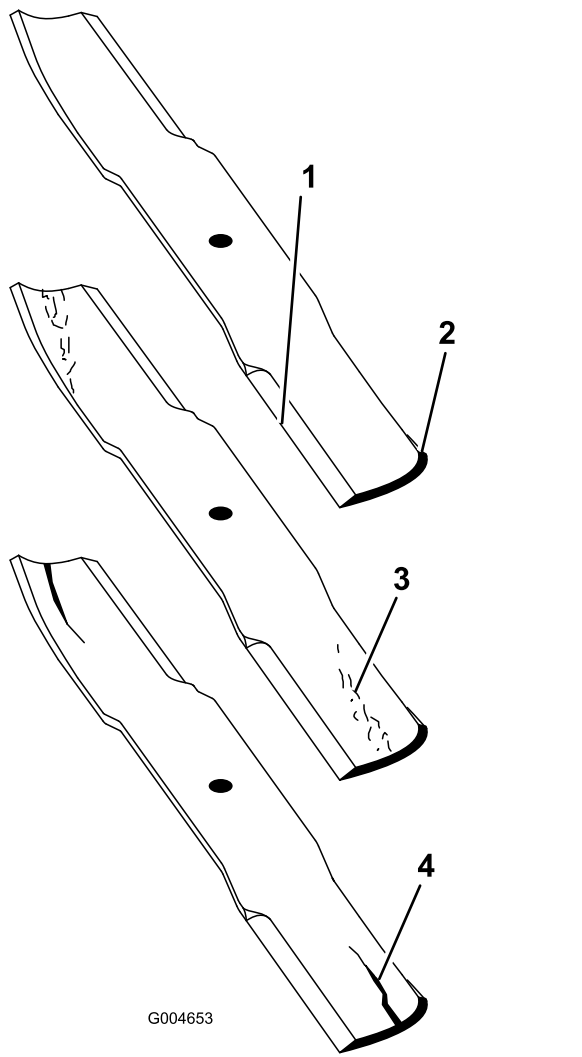

Figure 113
2. Examine the cutting ends of the blade carefully, especially where the flat and curved parts of the blade meet (Figure 113). Since sand and abrasive material can wear away the metal that connects the flat and curved parts of the blade, check the blade before using the mower. If wear is noticed (Figure 113), replace the blade.